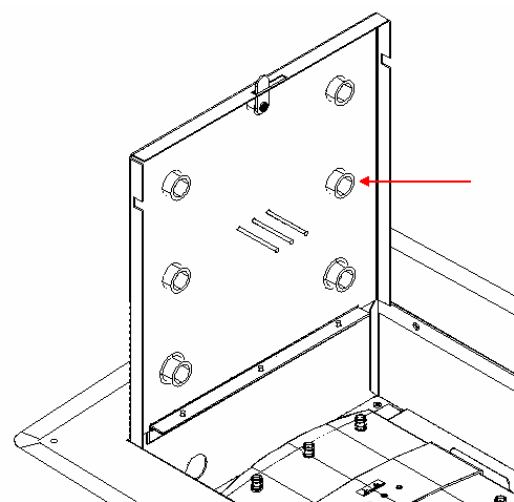

Figure 2 - Installation of Antennas.
Step 2 – Remove the plastic hole covers in the door by depressing the tabs on the inside of the covers (ref Figure 2). The antennas should be installed by placing the cable through the antenna openings in the enclosure cover from the outside of the box. After the cables have been pulled through the door, connect the antennas to the access point.
**\*\*NOTE:** The enclosure has a locking mounting plate that will accommodate the Cisco 1250 AP. The Cisco supplied mounting plate is not used in the installation to the Oberon 1053-06 enclosure. Also, the latching mechanism on the bottom of the Cisco 1250 AP should be removed prior to installation of the access point in the 1053-05 enclosure. The Cisco latch can be removed by unscrewing the two screws that hold it in place. For other Cisco Access Points, remove the mounting plate assembly by removing the (4) nuts. The access point can then be attached directly to the back box.